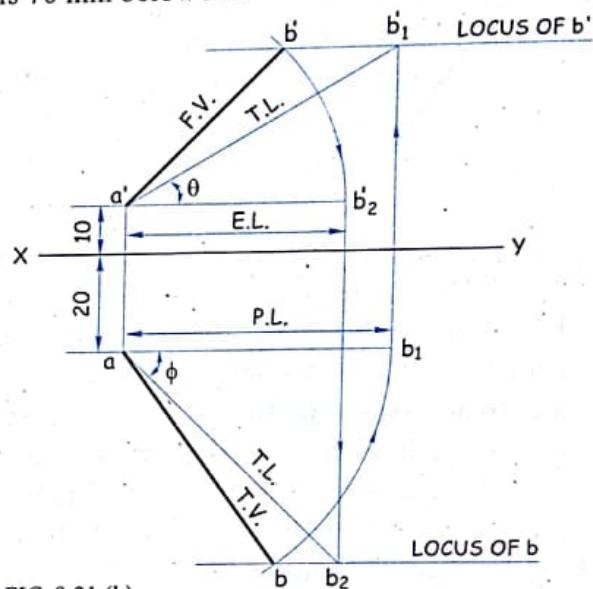

FIG. 8.21 (b)
**Stage I : Refer figure 8.21 (a).**